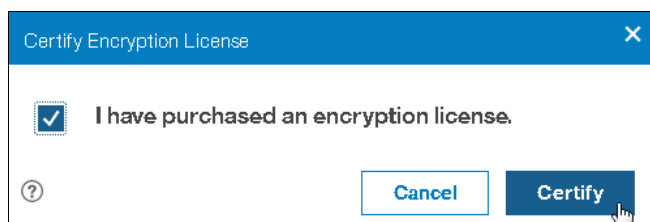

Figure 7-33 Confirm encryption license
3. A window open to confirm that you purchased an encryption license (see Figure 7-33). Select **I have purchased an encryption license** and click **Certify**.